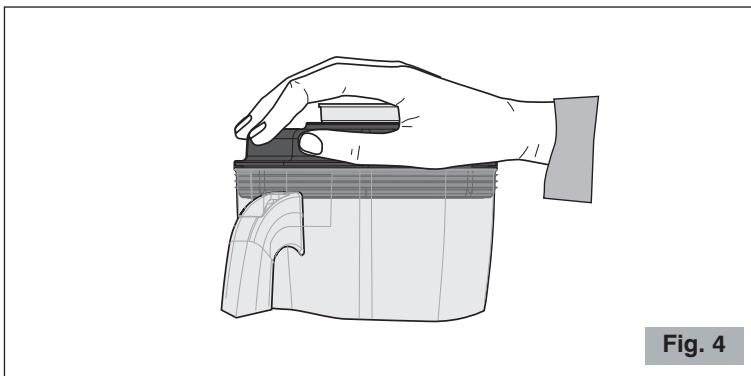

Fig. 4
- 5** Select the desired speed with the selector and, holding one hand on the lid, turn on the motor by pressing the button (Fig. 4).